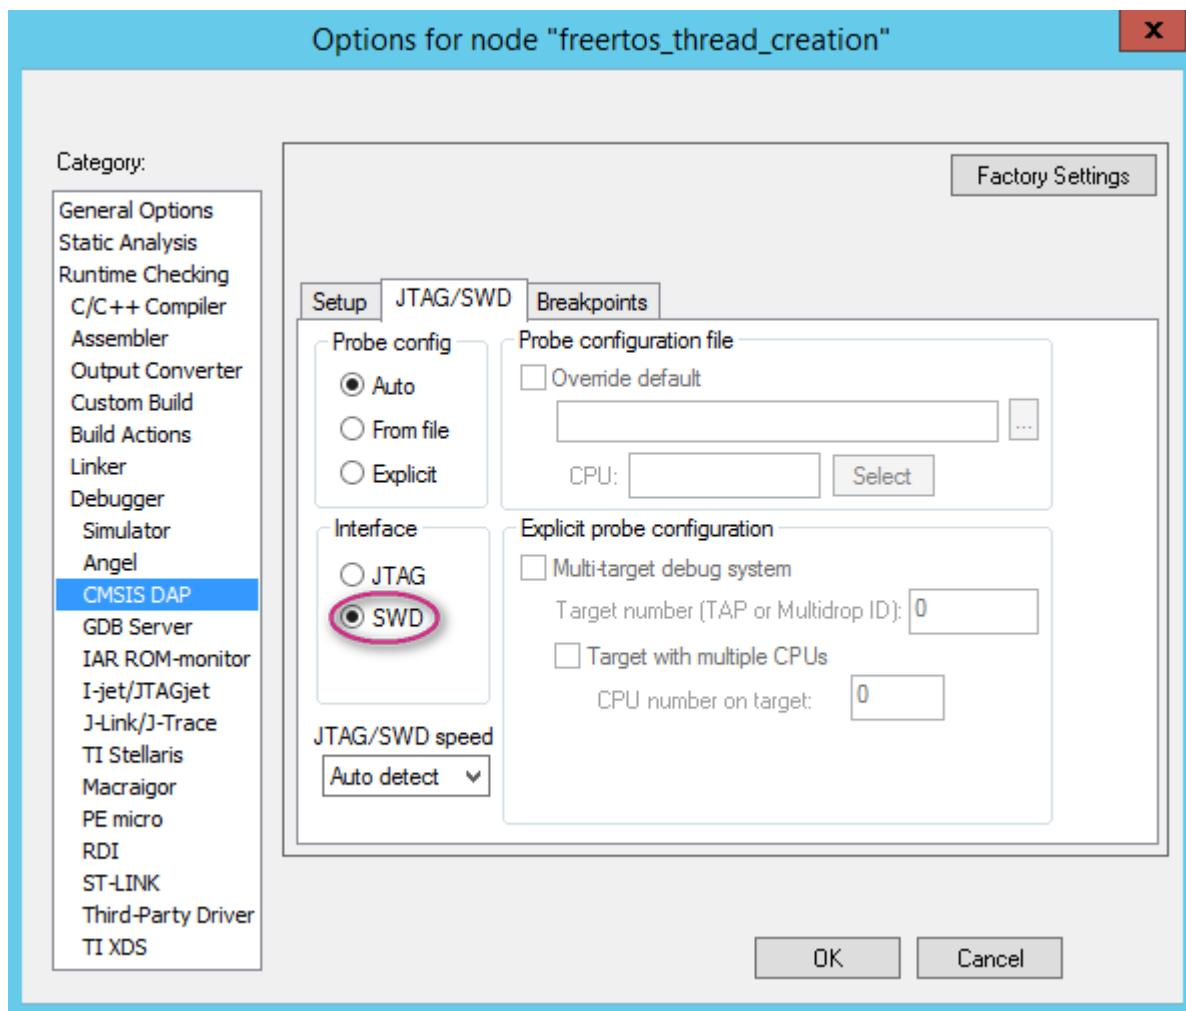

Figure 73. JTAG/SWD settings
- 1) Navigate to **JTAG/SWD** tab and provide the interface (see Figure 73).